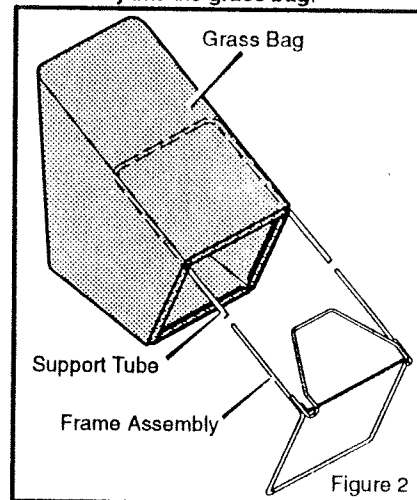

Figure 2
1. Slide the **frame assembly** into the ends of the **support tube** (Figure 2).